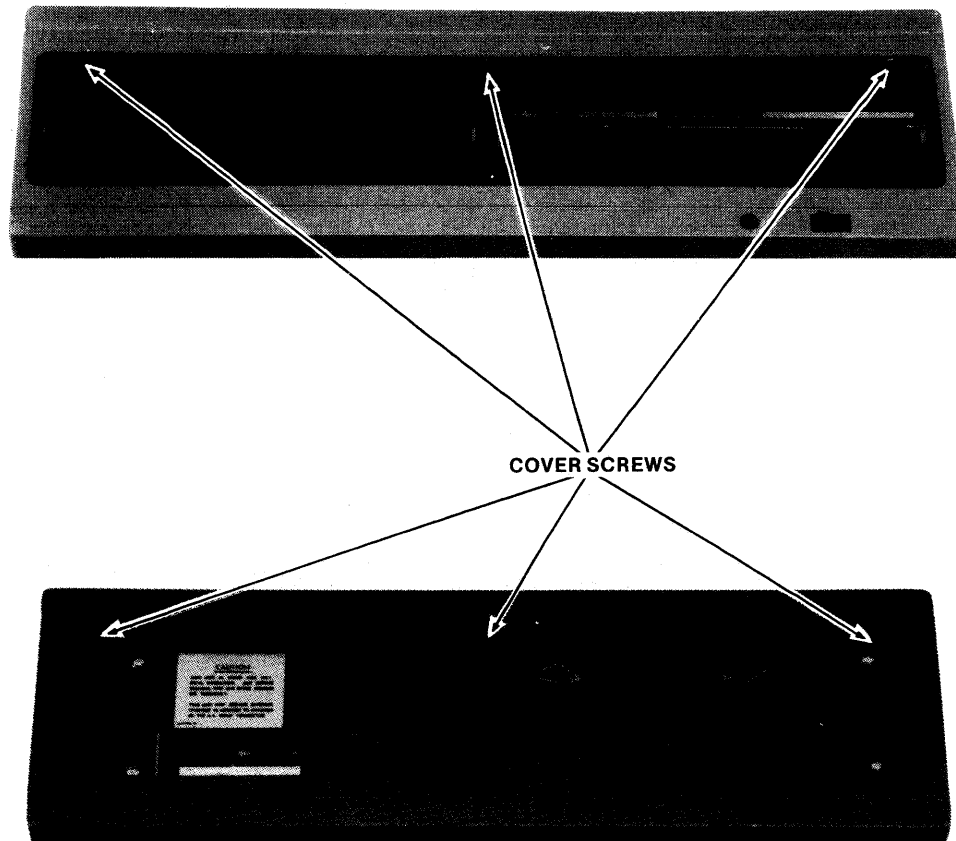

Figure E-2. Dual Drive Chassis Top Cover Removal
- d. Referring to figure E-2, remove the six Allen screws that secure top cover panel to drive chassis (a 7/64-inch angled Allen wrench is required) and remove top cover panel.